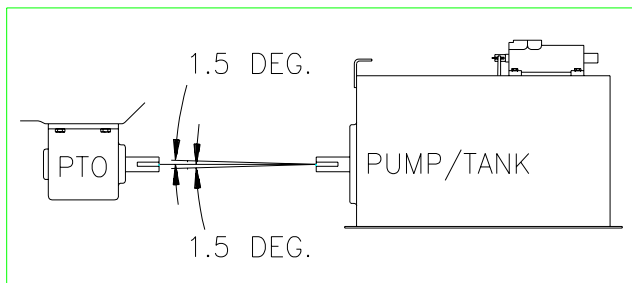
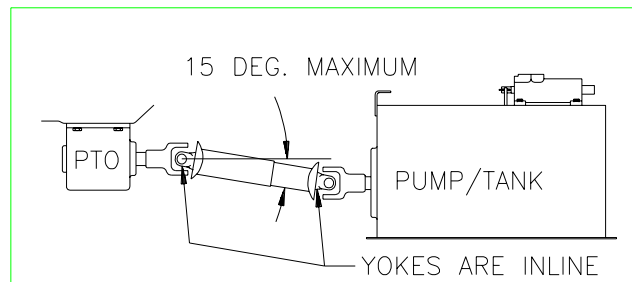

Figure 1: PTO-Pump Shaft Alignment
Figure 2: Drive Line Angle
3. Check the pump shaft to insure that it is parallel within 1.5 degrees to the PTO output shaft (see Figure 1), and adjust as needed. Determine the drive line angle. The ideal drive line angle is 1 to 7 degrees. If this angle is greater than 15 degrees, relocate the pump to achieve a drive line angle less than 15 degrees (see Figure 2). Install the drive line insuring that the drive line yokes are in-line.